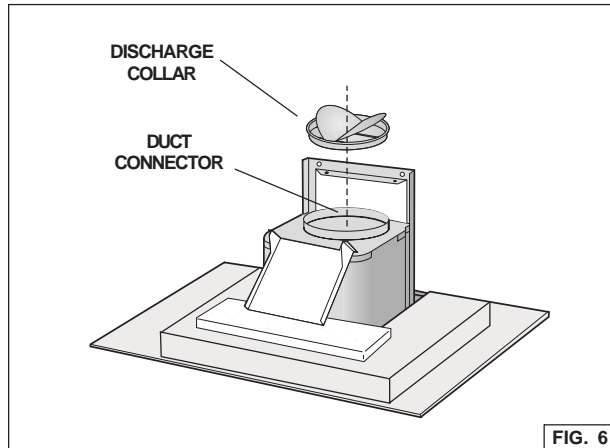

FIG. 6
1. Install the discharge collar into the duct connector of the range hood. Fig. 6.